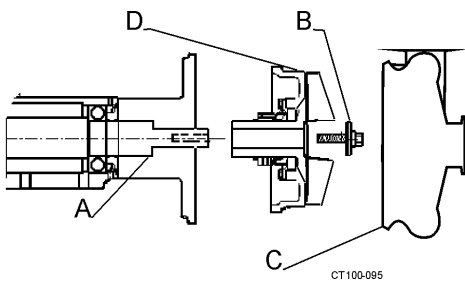

Figure 46 - Removing the Impeller Assembly
4. Remove the casing clamp and casing (Figure 46, item C). Slide the o-ring off of the backplate
5. Remove the impeller retainer bolt and shaft o-ring (Figure 46, item B).
6. Pull the impeller/backplate assembly off the bearing housing shaft (Figure 46, items D and A).